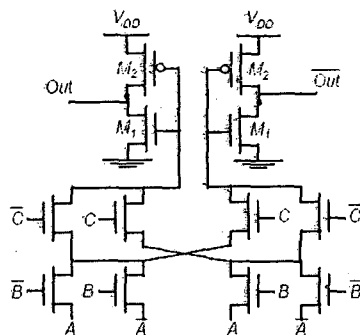

Figure 5
12.(b)(i) Give 2 design issues in dynamic logic circuit. Give circuit techniques to minimize those issues. (8)
(ii) Give the Boolean logic expression for *out* and \overline{out} of the circuit given in Fig.5. Explain why this circuit has static power dissipation. Give an alternate circuit technique to minimize the static power dissipation. (8)